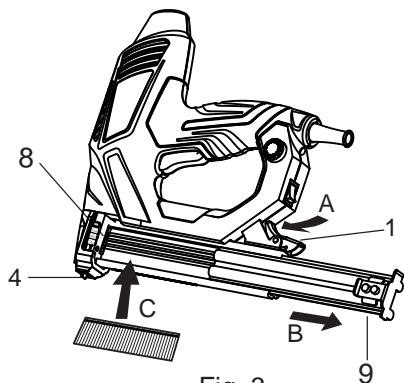

Fig. 3
- > Switch off and unplug before inserting nails, turn tool upside down (Fig. 3)
- > Press lever (1) while pulling slider (9) backwards. Insert the nail strip into magazine (8) with heads facing upward (maximal capacity 100 nails)
- > Push slider (9) against nailer head (4) until it snap locks.
- > When inserting a nail strip (not supplied with the tool) tilt the tool in such a way, that the nail strip rests against the magazine side which corresponds with the nail symbol on nailer head (4) nail points upward.